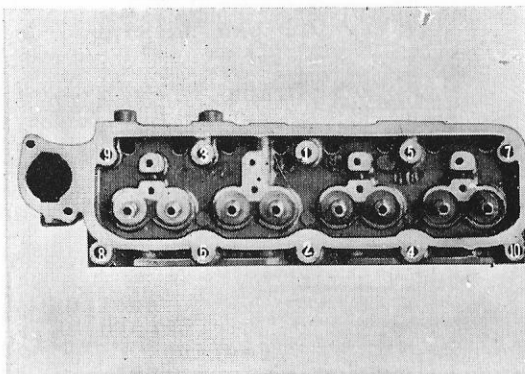

Fig. 4-40
(1) Fully coat the both sides of the cylinder head gasket with jointing compound and fit the gasket to the cylinder body and then mount the cylinder head over the gasket.
(2) The cylinder head clamping bolts should be tightened in the sequence illustrated in Fig. 4-40 in the following manner.